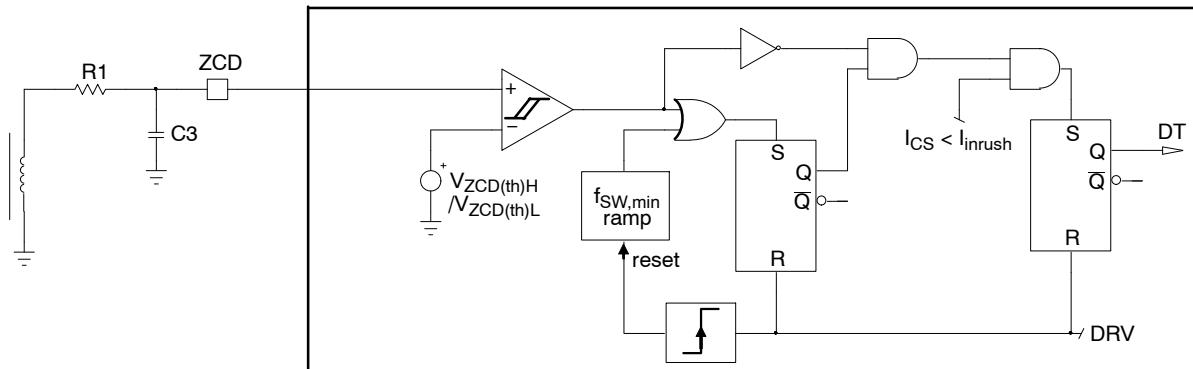

Figure 9. Zero Current Detection Block
Figure 9 shows how the NCP1655 detects the valley.
- The ZCD pin impedance (for instance R_3 of Figure 9), must be higher than 7.5 kΩ not to trigger the ZCD pin short-to ground protection.
If no ZCD can be detected when the circuit operates in FCCrM mode, the circuit cannot use the valley detection to start a new current cycle. In this case, the next DRV pulse is forced by the DCM minimum frequency ramp ($f_{sw,min}$ ramp of Figure 9) which acts as a watchdog.
Before the new pulse is generated, the circuit senses the pin impedance by sourcing 250 μ A. No DRV pulses are generated until the pin voltage exceeds V_{ZCDH} . Hence, the part is inhibited when the pin is grounded. Not to trigger this protection, the pin impedance (for instance R_3 of Figure 9. must be higher than 7.5 k Ω).